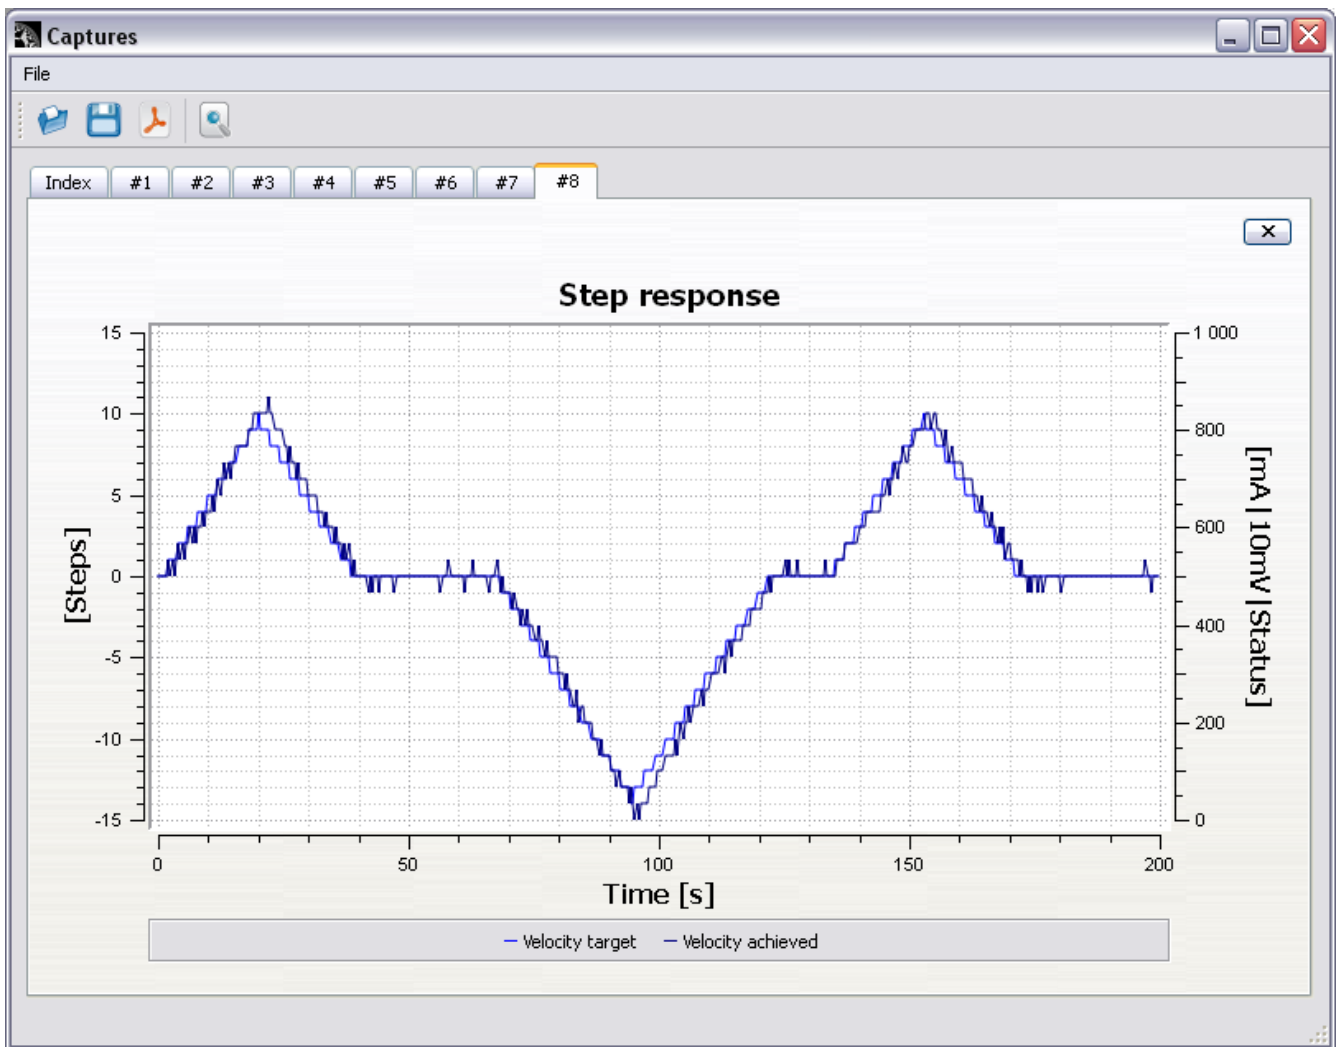

Figure 8: Too low velocity I-gain value
- If you are getting reduced difference between target and achieved, like in Figure 8, continue increasing **Velocity I** gain and return to step 6 or leave it as is and proceed forward.